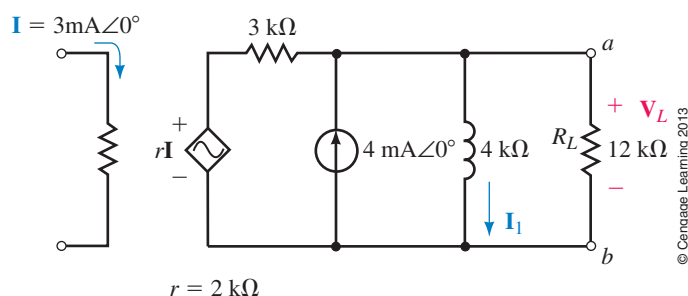

FIGURE 20-75
12. Consider the circuit of Figure 20-75.
14. Repeat Problem 13 for the circuit of Figure 20-75.
38. a. Find the Norton equivalent circuit external to the load impedance in Figure 20-75.